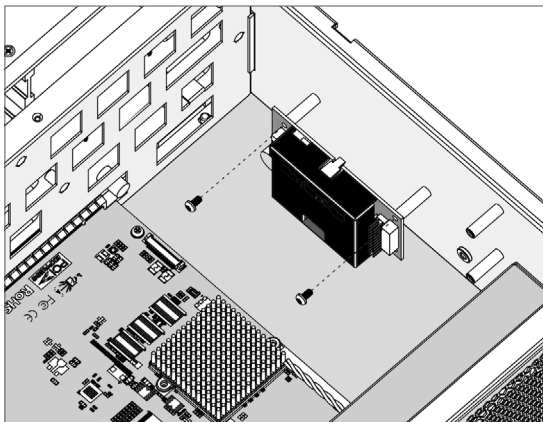

Figure C-6, Secure the Battery Module
2. After removing the cover, then secure the battery pack module (ARC-6120-BAT121-7, reference NO.1 in Figure C-1) on the right side within the enclosure (for ARC-7216), as shown in Figure C-6.